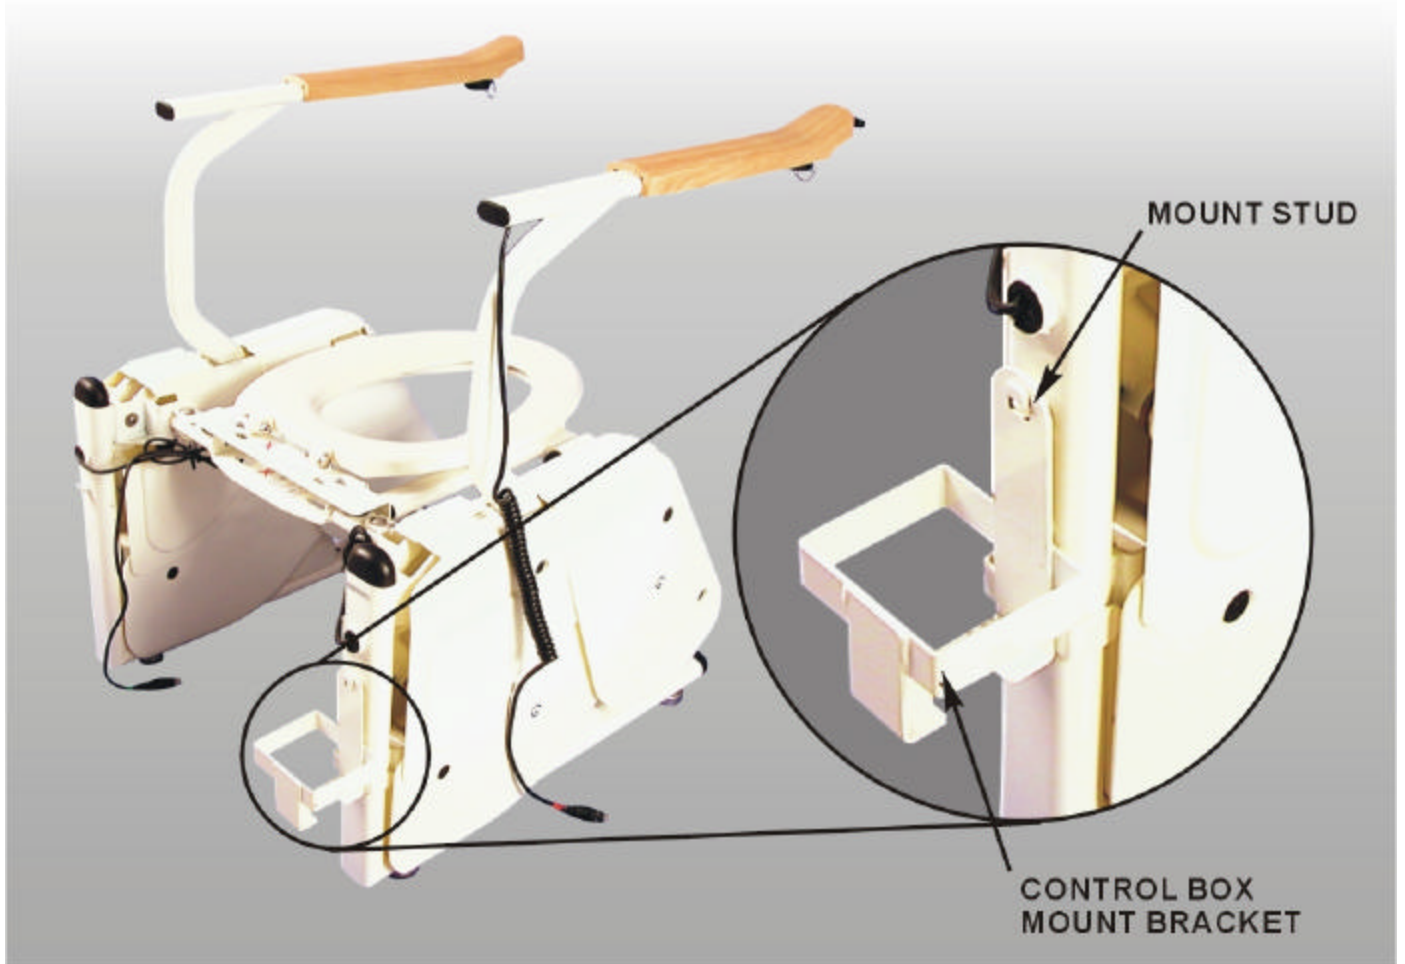

Figure A-2. Battery Operated Control Box Mount Bracket
Step 2a. Hang the control box mount bracket on the back of the lift frame mount stud as shown in Figure A-2. Place the control box inside the mount bracket with the three control connector ports running from back to front, along the right, on top of the control box.